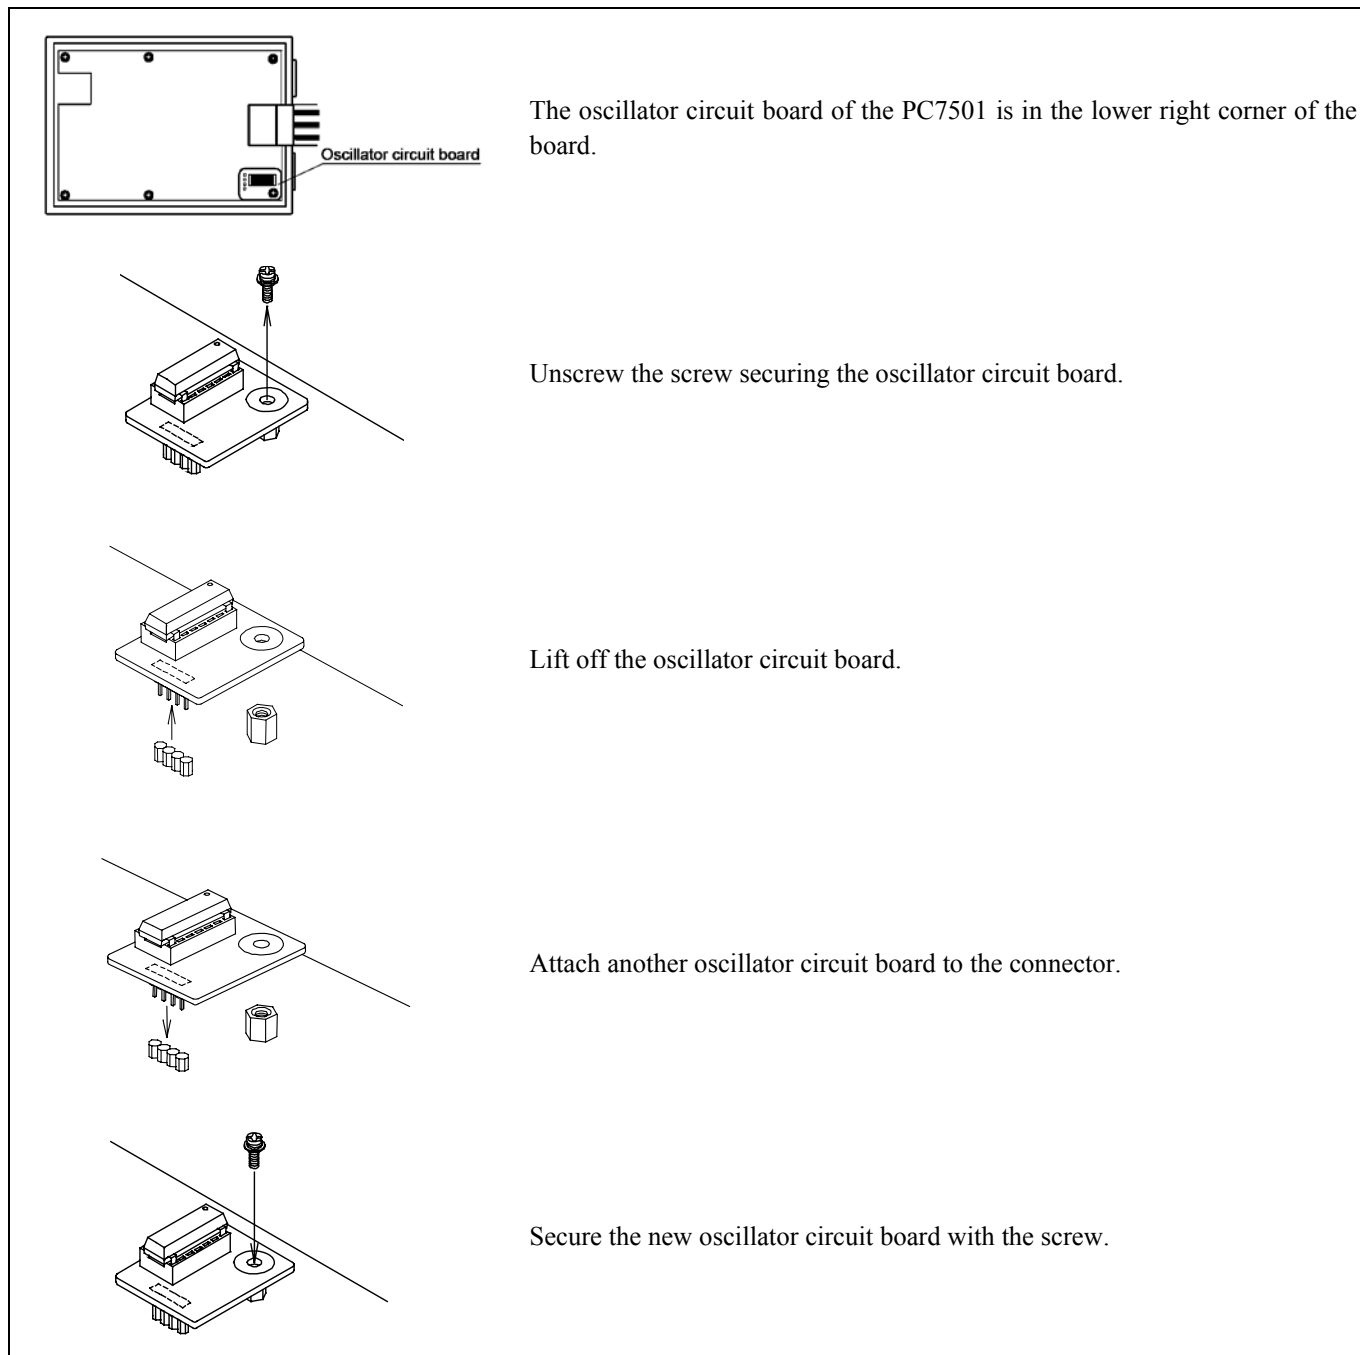

Figure 2.15 Replacing oscillator circuit boards
2. Unscrew the screw of the oscillator circuit board of the PC7501 and replace it (see Figure 2.15).